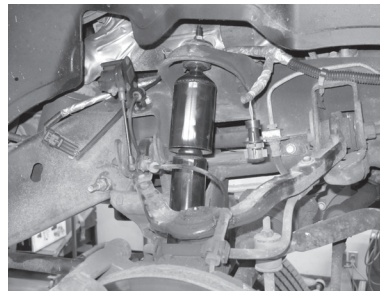

FIG. 2
5. (FIG. 2) The new shock absorber assembly can now be installed. Tighten the upper stem components until the cushion is slightly bulged (approximately 3/4 of original height). Install lower mounting bolt through clevis, reusing original bolt or obtain a new replacement (not provided). Tighten bolt to 42 ft-lbs (57 N-m).